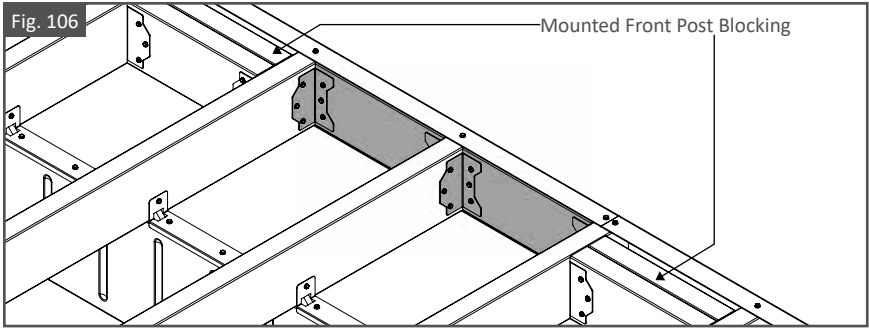

Fig. 107
6. Cut one Joist to 48" [1219mm] length. As shown in Fig. 107.